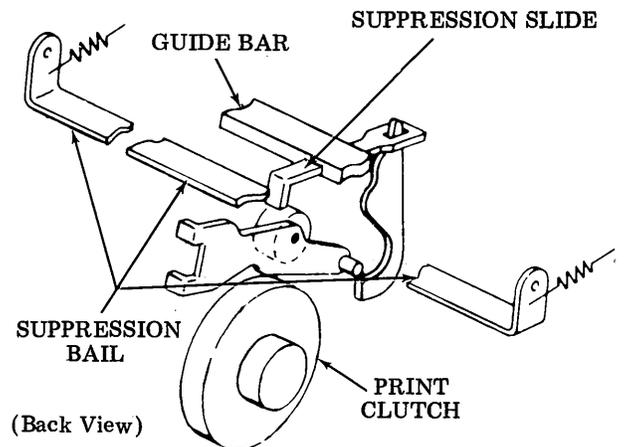

Figure 2 - Suppression Slide and Bail
- (1) View the typing unit from the back over the trip shaft mechanism, and check to insure that the suppression slide is not hung-up over the suppression bail. The correct position is shown in Figure 2.